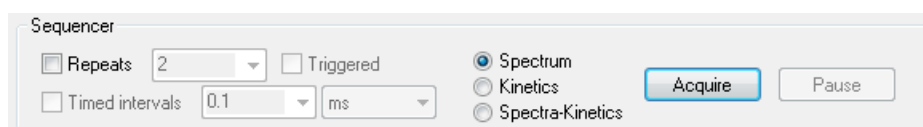

Figure 2-39: the Sequencer panel for steady state fluorescence emission
2. Now ensure that **Spectrum** mode is selected on the **Sequencer** panel (Figure 2-39)